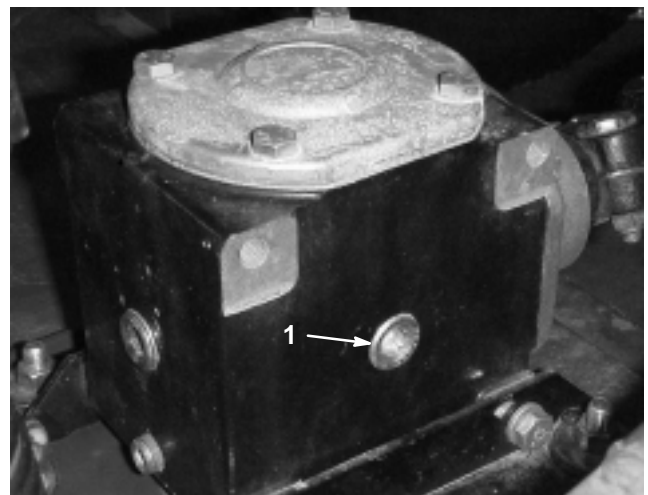

Figure 20
2. Position the machine and cutting unit on a level surface and lower the cutting unit. Remove the fill/check plug from the side of the gear box (Fig. 20) and make sure that the lubricant is up to the bottom of the hole. If the lubricant level is low, add SAE 80–90 wt. gear lube until the level is up to the bottom of the hole.